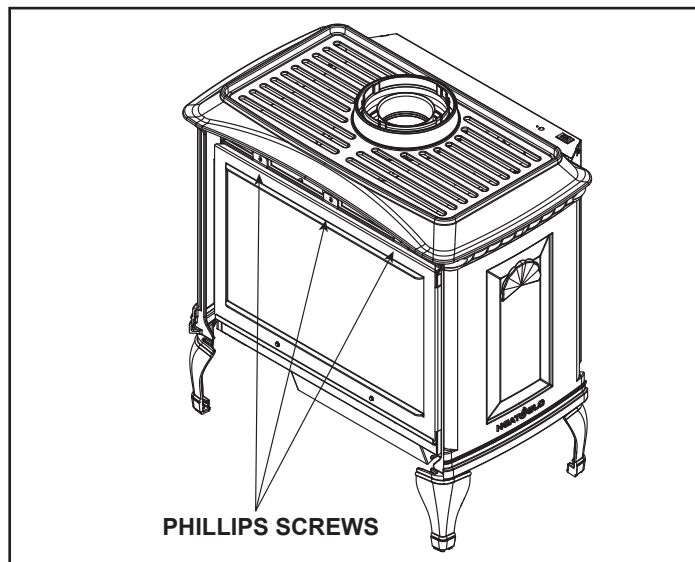

Figure 10.2 - Remove Glass Frame
3. Using a #2 Phillips bit, remove three fasteners from the top of the glass frame assembly. See Figure 10.2. Remove glass from appliance.